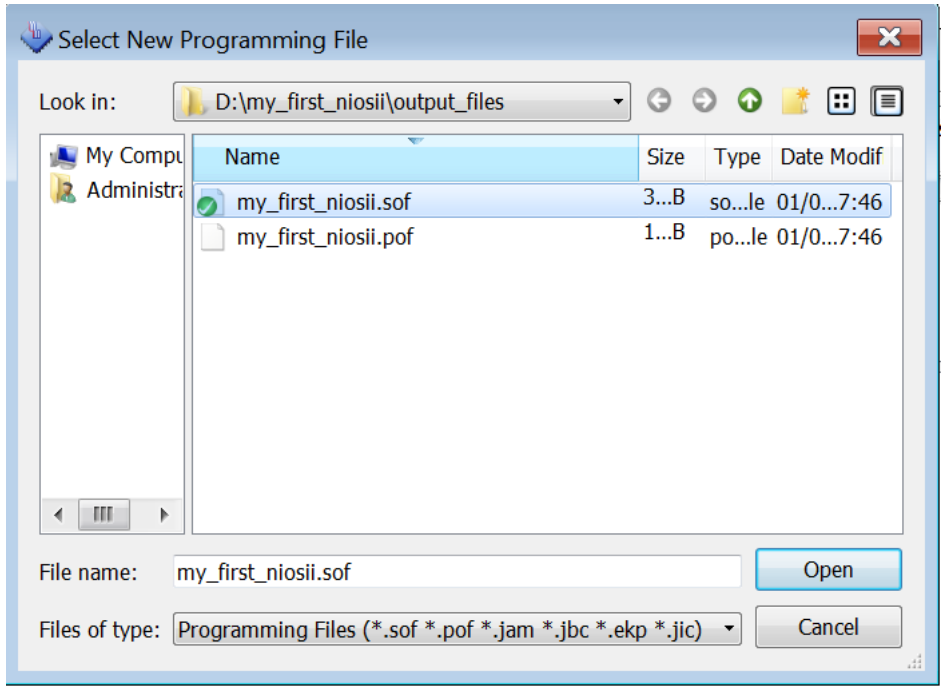

Figure 1-51 Select the programming file
10. Select the programming file i.e. myfirst_niosii.sof, as shown in **Figure 1-51**.